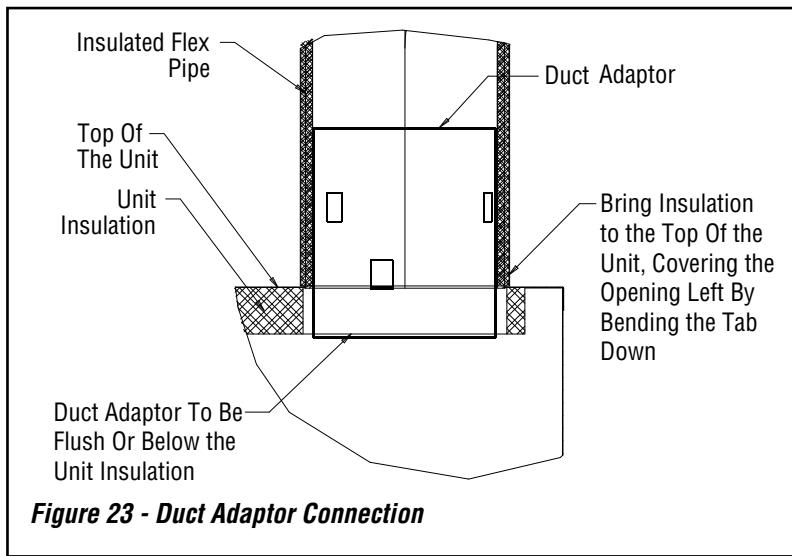

Figure 23 - Duct Adaptor Connection
- Attach the bottom of the flex-pipe to the duct adaptor on the unit and secure using 4 of the supplied sheet metal screws. Bring the outside insulation and sleeve down to the top of the unit, ensuring that the openings in the duct adaptor, (left by bending the adaptor tabs down) are fully covered (see **Figure 23**).